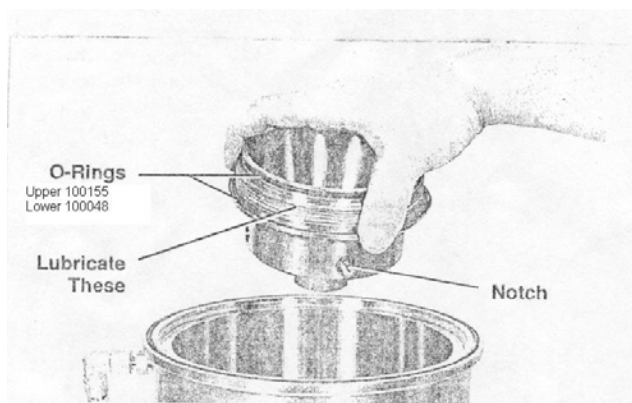

Figure 1
- 4.2 Fib the bowl hub O-rings into their slots on the bowl hub (See Attachment 1, Figure 1)
10.1.1 Figure 1 – Installing the Bowl Hub